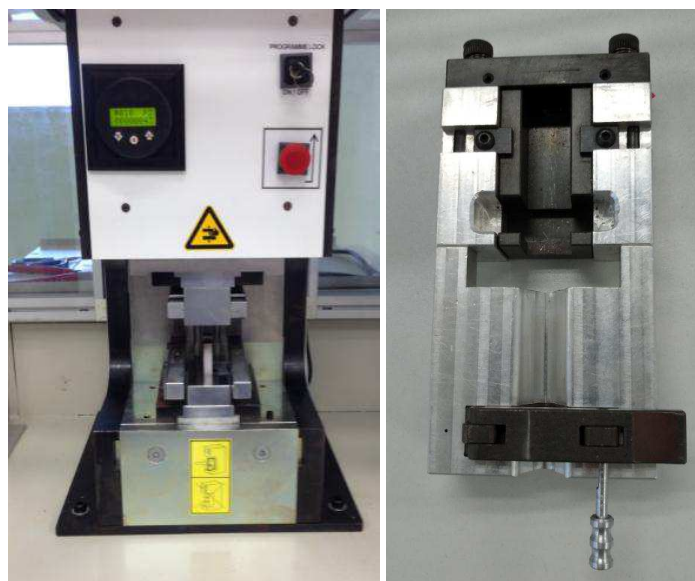

Figure 8.
5.2 Crimp Tool and Fixtures. Figure 8.